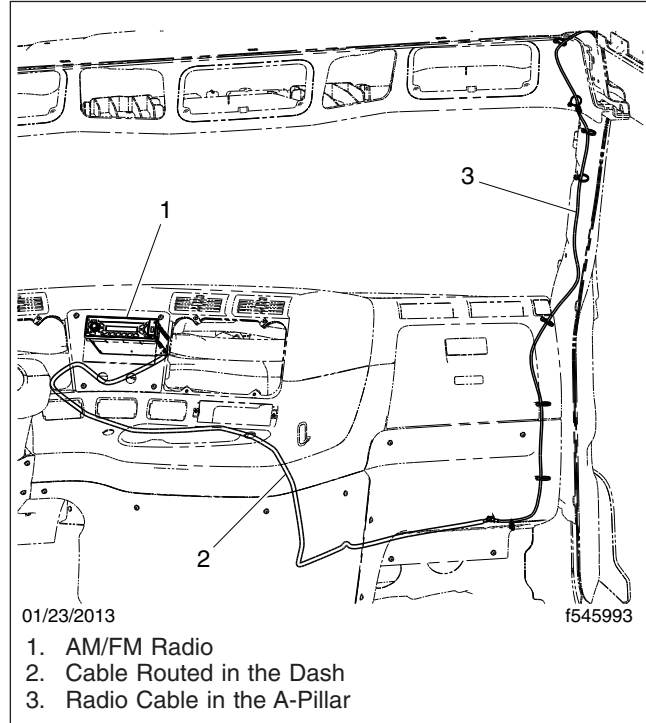

Fig. 11, Cable Routing, AM/FM Radio
- To access the AM/FM radio antenna, remove the passenger-side A-pillar, the doghouse panel, and the auxiliary instrument panel. See Fig. 11.